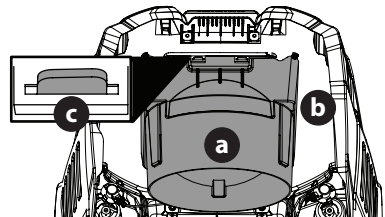

Figure 10
1. Insert the rear tabs (c) (Figure 10).